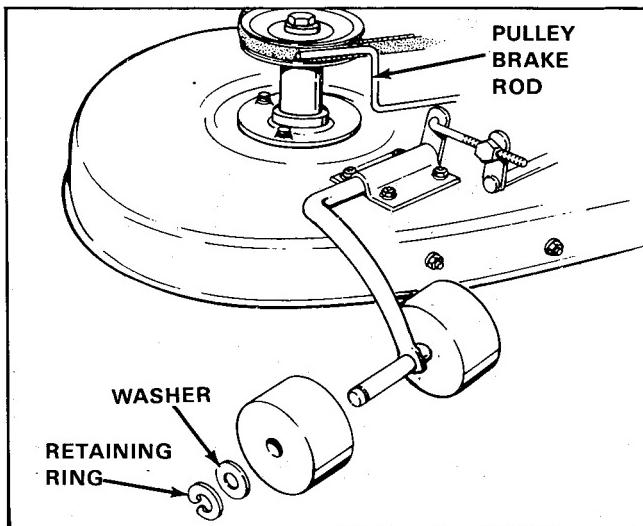

Figure 48. Installing Rollers
1. Install the rollers on the wheel support assemblies with $5/8 \times 1\text{-}1/4$ plain washers and the retaining rings as shown in figure 48.
9. Check to be sure the pulley brake rod (partially shown in figure 48) seats itself on the belt in both arbor pulleys. If not, loosen two screws on its holdown bracket and allow the spring to position the rod so that it bears against both pulleys. Retighten the two screws.